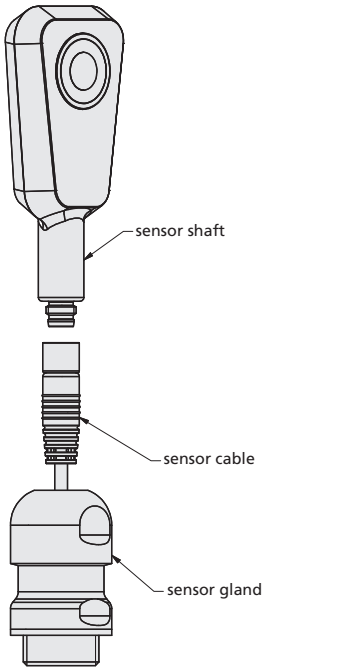

Fig. 5: Mounting of pms sensor with sensor screw connection BF-pms/A1
- The D12 adapter shaft of the pms sensor has to stick out  $7 \pm 1$  mm from the screw connection for hygienic mounting (see Fig. 5 and Fig. 6).